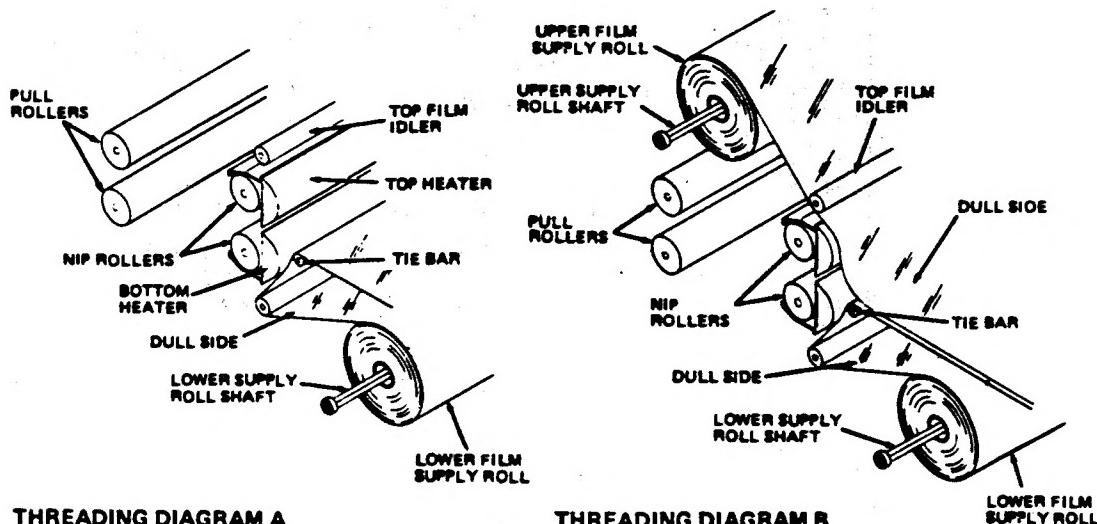

Figure 4.1.4
- 14) Unwind about 3 feet (91 cm) of film, from the bottom roll, and pass the loose end under the lower film idler, upward over the tie bar, and back over the top of the lower film roll (See Figure 4.1.4).
- 15) Unwind about 3 feet (91 cm) of film, from the top roll, and pass the loose end under the top film idler and over the top of the lower film roll (See Figure 4.1.4).